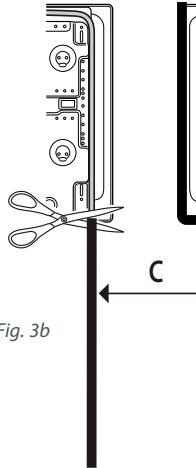

Fig. 3b
- 3 Using a sharp cutter or a pair of scissors, cut the excess seal "C" and put aside (Fig. 3b).